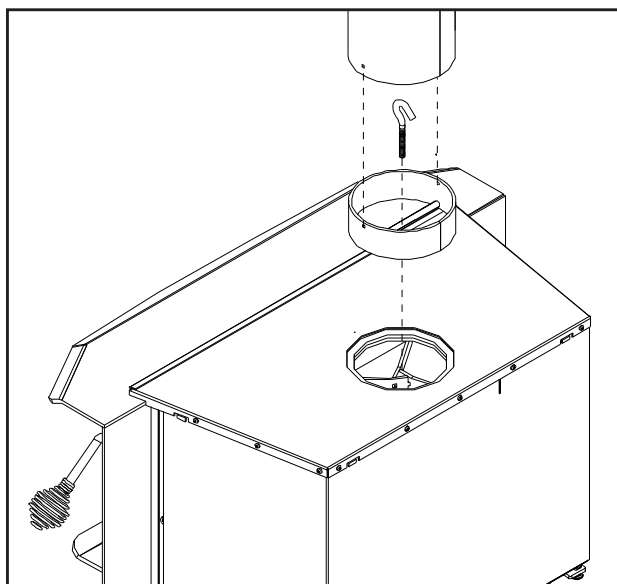
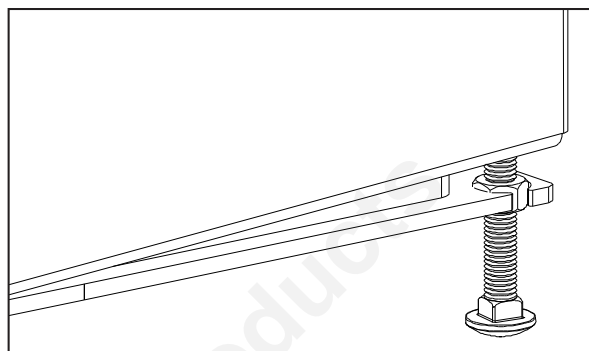

Figure 38: Attaching removable flue.
Figure 39: Leveling leg.
- f) Using the hook/bolt, grab the flue collar by the rod through the center and pull it into place (see Figure 38).
- h) Re-install ceramic baffles and the first two (2) front secondary air tube (see CERAMIC BAFFLE INSTALLATION).
3. There are two (2) leveling legs (shown in Figure 39), one on each side, at the back of the unit. Adjust the legs using a $\frac{9}{16}$ " wrench to ensure the unit is stable.